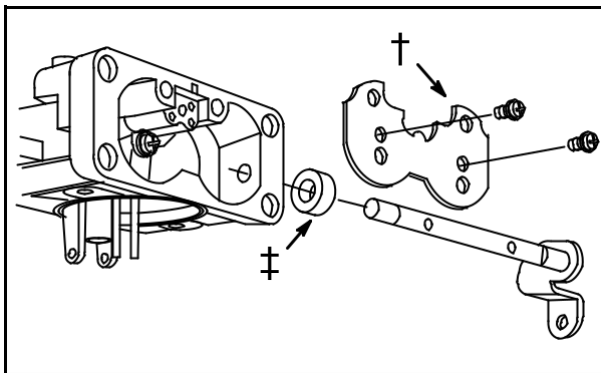

Fig. 126
Assemble new seal (7) to choke shaft and insert into carburetor body, **Fig. 126**.